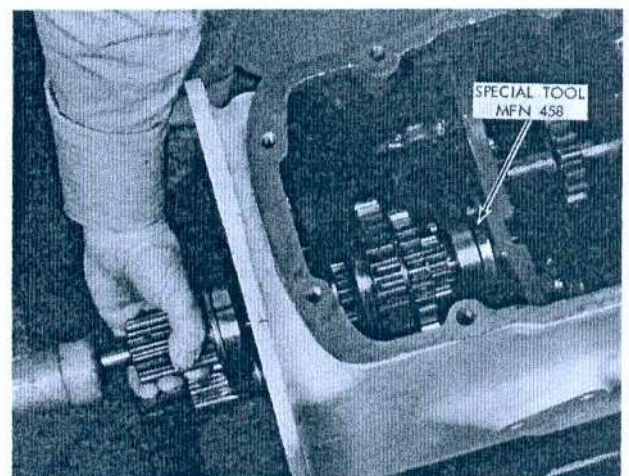

Fig. 16 - Installing Front Bearing on Main Shaft (Using Special Tool MFN 458)
- c. Start front bearing on shaft. Place tool MFN 458 between bearing and bearing bore and tap rear of main shaft with a soft hammer to seat bearing on shaft. See Fig. 16.
- c. Start front bearing on shaft. Place tool MFN 458 between bearing and bearing bore and tap rear of main shaft with a soft hammer to seat bearing on shaft, as shown in Fig. 16.